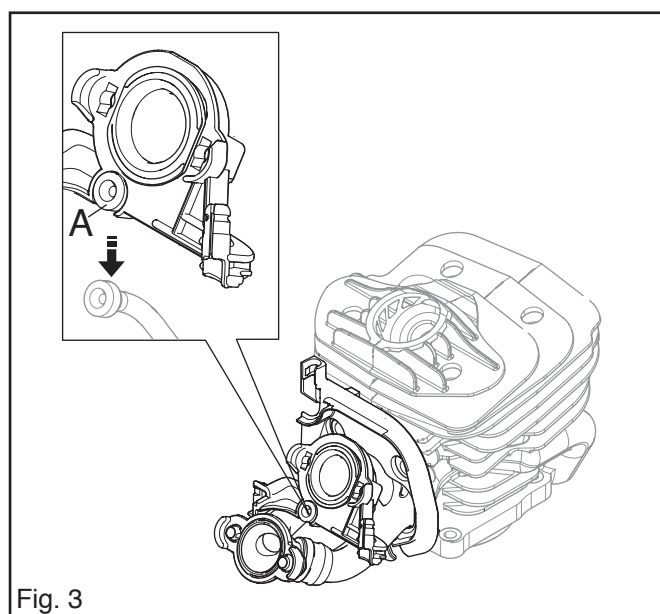

Fig. 3
9. Disconnect impuls hose (A) and unscrew the intake manifold. See fig. 3 and fig. 4.